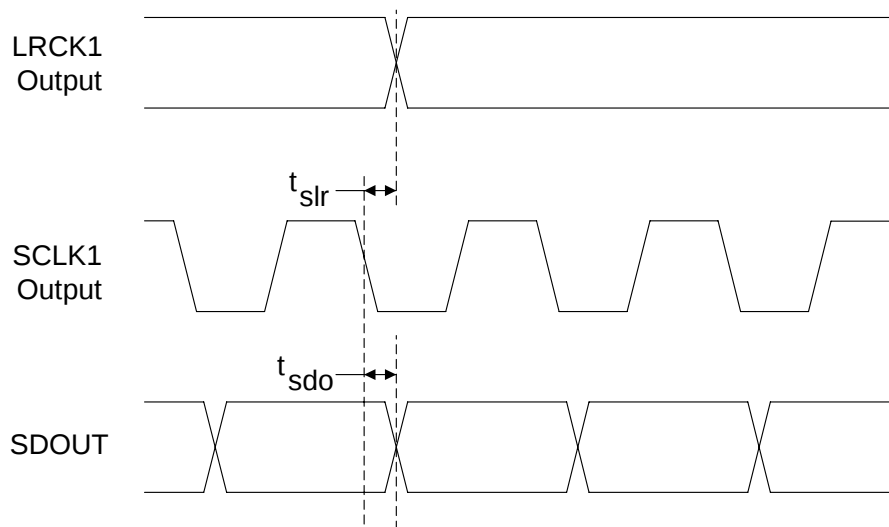
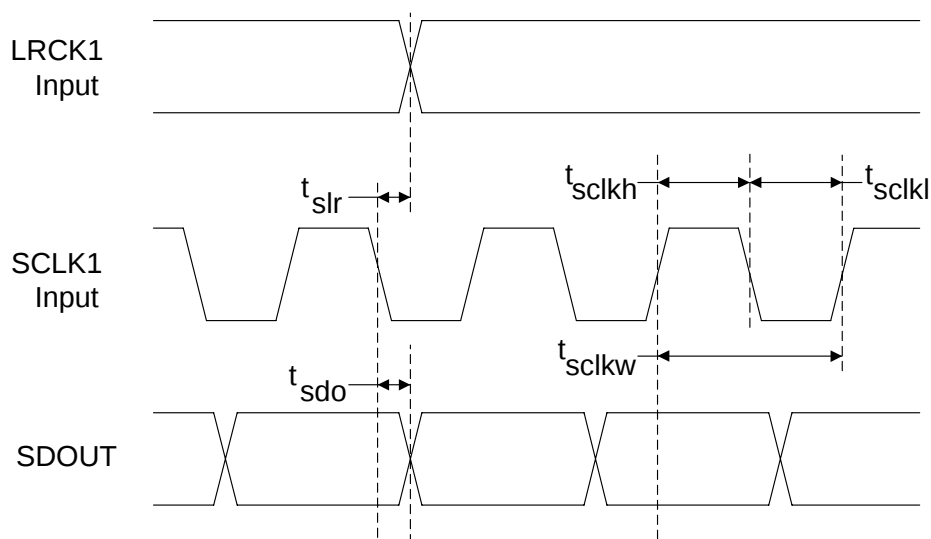

Figure 3. Master Mode Timing - Serial Audio Port 1
Figure 4. Slave Mode Timing - Serial Audio Port 1
27. See Figure 3 and Figure 4 on page 24.